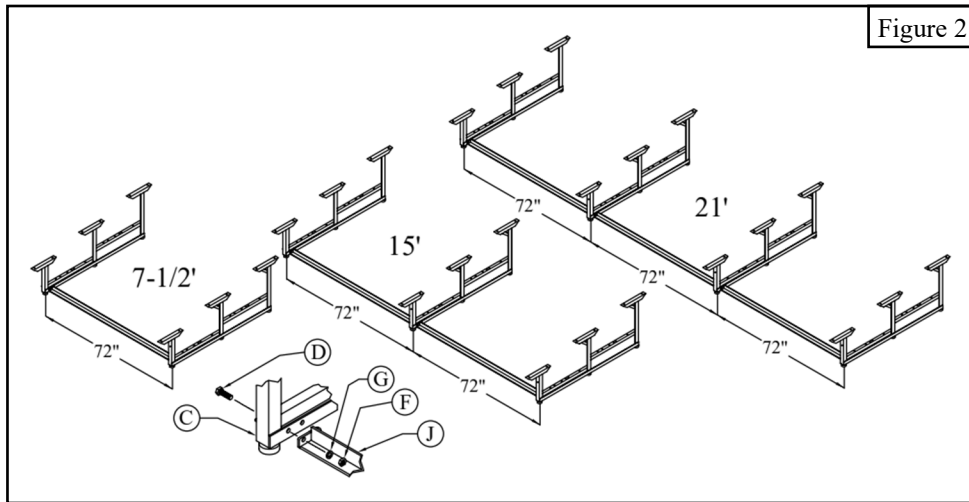

Figure 2
2. Position *Frame Assemblies* (C) approximately 72" apart on a level flat surface. Install *Front Brace* (J) using *3/8" x 1 1/4" Hex Bolts* (D), *3/8" Lock Washers* (G) and *3/8" Hex Nuts* (F). See Figure 2.